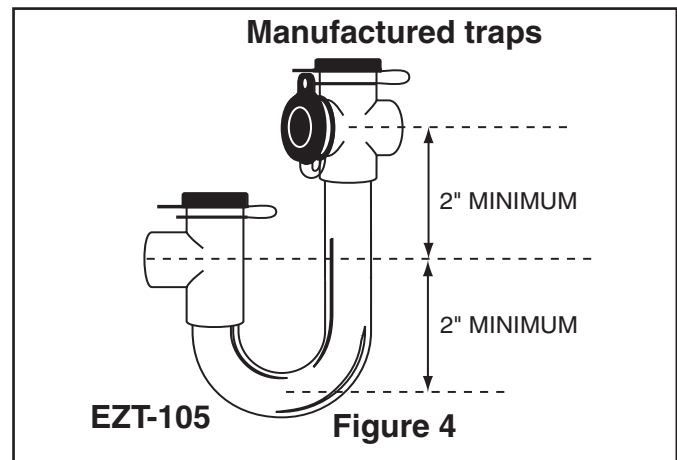
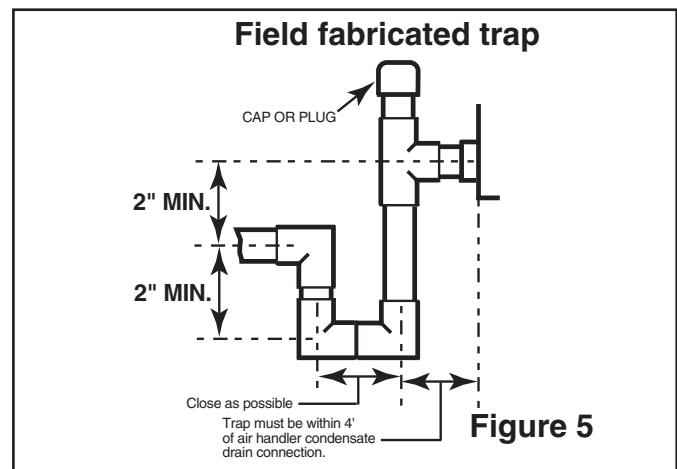

Figure 4
Figure 5
1. The primary drain line must be trapped with a minimum of 2" water seal as shown in Figure 4 & Figure 5.
The use of Field fabricated or manufactured traps as shown in Figures 4 & 5 is acceptable. The manufactured trap shown in Figure 4 allows for a float switch option to be added. Refer to the manufacturers data and instructions for details.
4. It is recommended that a clean-out tee or cross be installed in the primary drain line for future maintenance (See Figure 4 & 5).